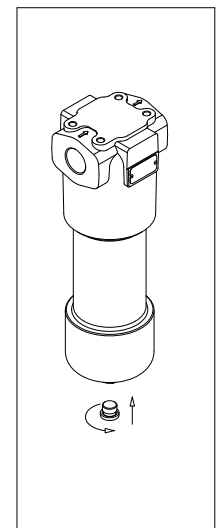

fig. 19
- (Fig. 19) Screw the drain plug in referring to the tightening torque table in paragraph 3